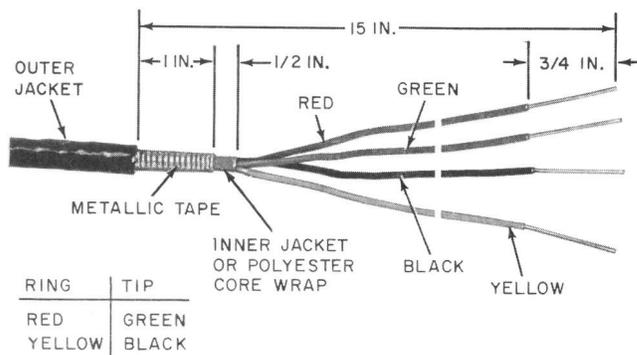

Fig. 21—Prepared Service Wire—UP200 Cable Closure
5.14 Prepare service wire as shown in Fig. 21.